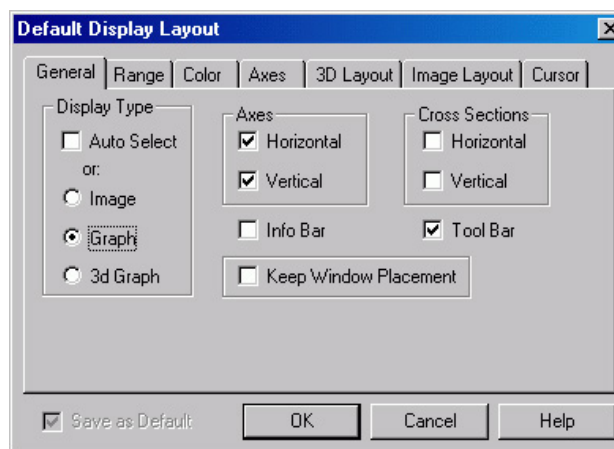

Figure 77. Display Layout dialog
4. Select Layout on the Display menu. The Display Layout dialog will open as shown in Figure 77.